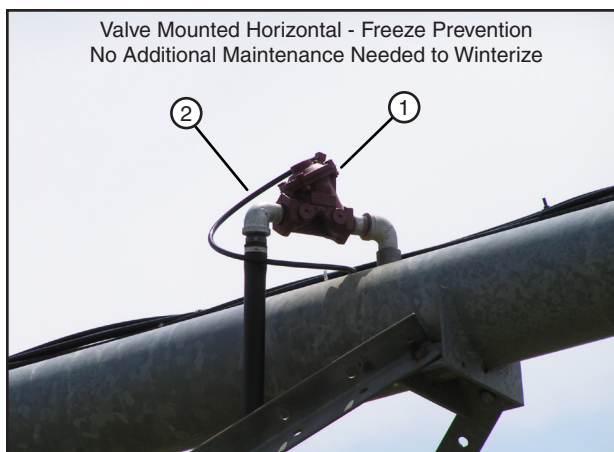

Figure 60-2 1. Aquamatic Valve
One or more Aquamatic sprinkler valves are opened and closed by one solenoid valve in the VRI tower box. A plastic tube connects each Aquamatic sprinkler valve to a solenoid valve. Refer to Figure 60-2.
A typical plumbing configuration for regions where the temperature during the winter months drops below 40°F (4°C), and/or the growing season is six months is shown in Figure 60-2.
- The valve is mounted horizontally which allows water to drain out of the valve and plumbing reducing the possibility of damage due to freezing. Refer to Figure 60-2.